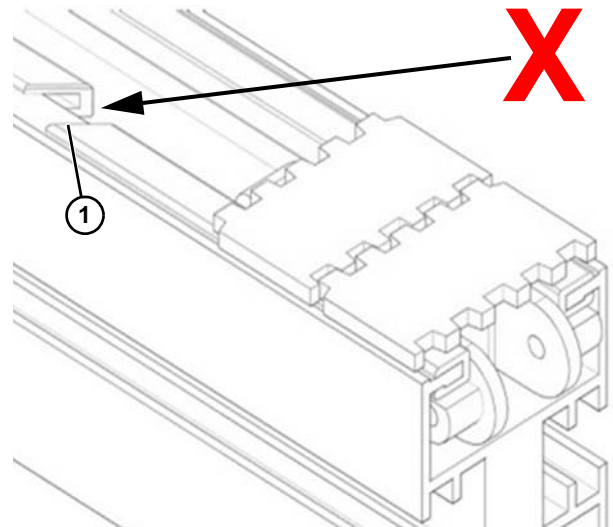

Figure 100
- Check that the gap (**Figure 100, item 1**) between the slide rails and that the joints fit correctly.